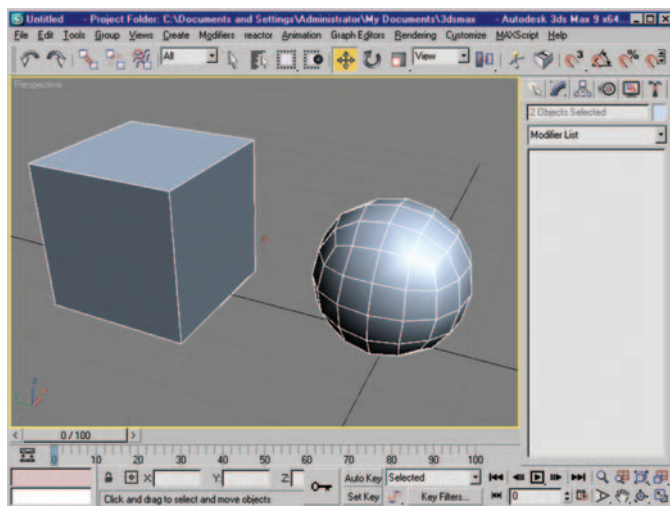

Figure 6.6 Box and subdivided result.
1. In 3ds Max, activate your top viewport, and create a box primitive. Leave the segments at 1, 1, 1. Convert it to an Editable Poly object and add a TurboSmooth modifier with two iterations. Figure 6.6 shows the box base mesh and the subdivided result